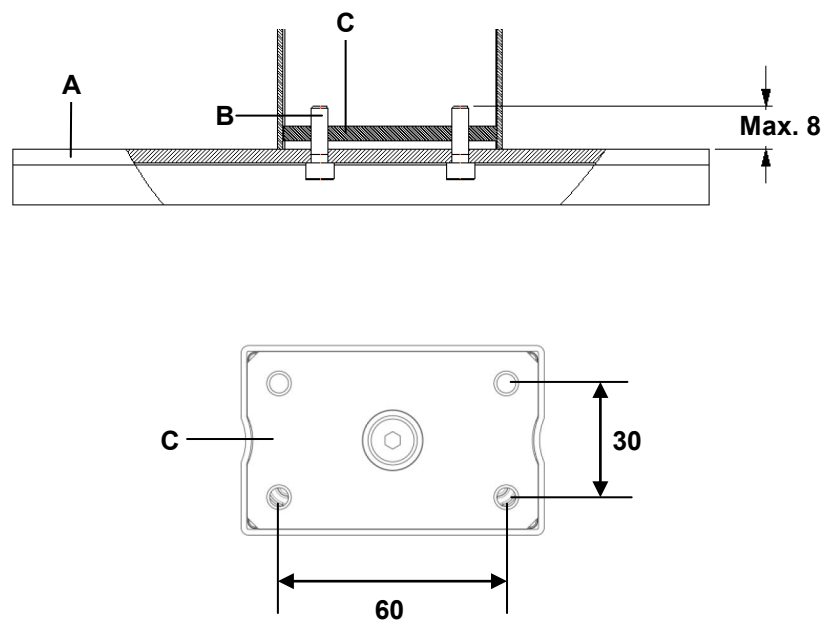
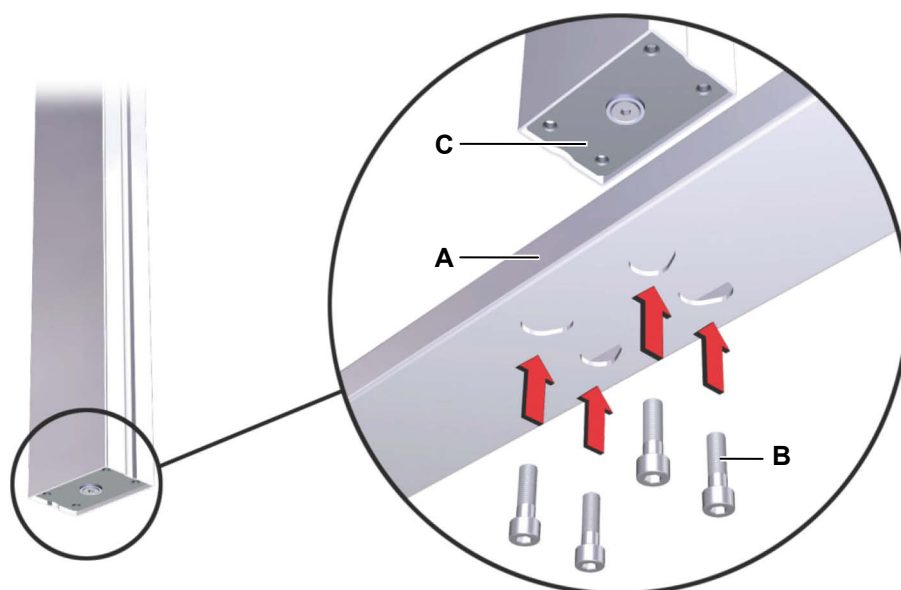

Figure19 Mounting the table base (dimensions in mm)
Figure 20 Mounting the table base:
- Use M6 bolts (with strength grade 8.8), as shown in Figure19. The tightening torque must not exceed 10 Nm.
- 1 Use four screws to attach the table base to the foot end of the DD11/DD21 lifting columns, as shown in Figure 20 (maximum tightening torque is 10 Nm). The mounting dimensions are shown in Figure 19.